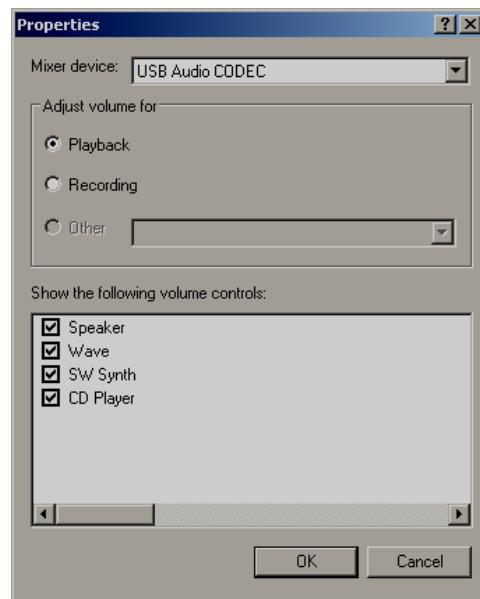

Figure 2 *Properties Window*
- The Properties window should now look like the one shown below in Figure 2. Verify that it does and then click OK.